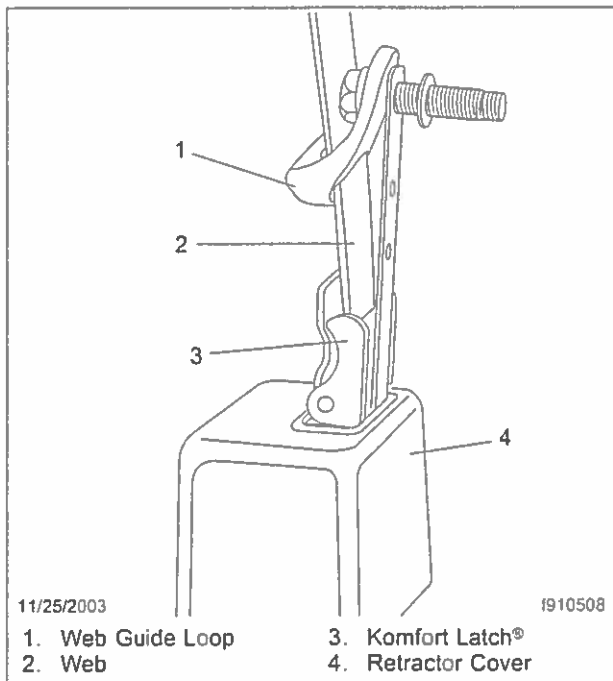

Fig. 1, Retractor in the 90-Degree Position
2. Verify that the retractor is mounted in the 90-degree position. See Fig. 1.